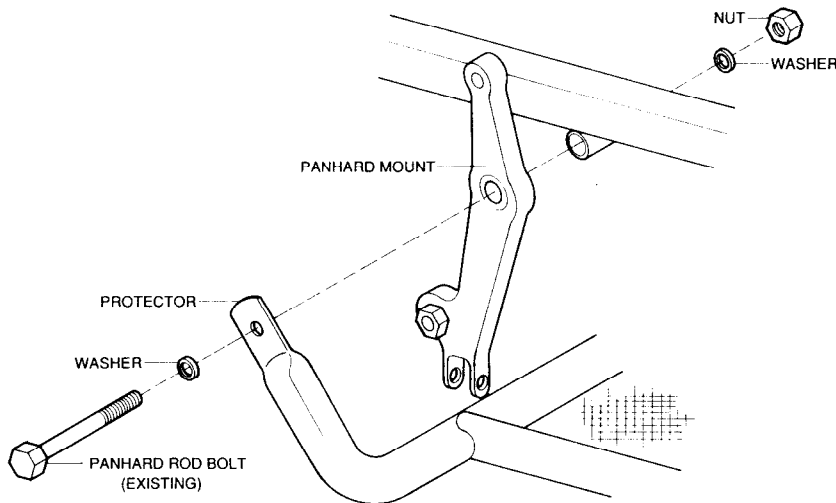

FIG 1 - RHR PROTECTOR PLATE MOUNTING
- b. Remove the lower Panhard rod mounting arm to chassis mounting bolt and fit the Right Hand Rear (RHR) protector mount using an additional plain washer and new nut, (items 2, 3 and 4 from Table 1), as shown in Fig 1.